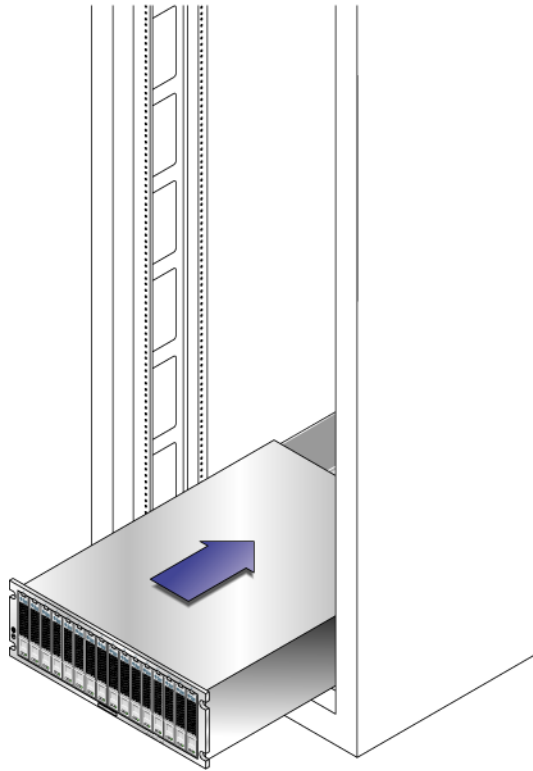

FIGURE 2-31 Sliding the Tray Into the Cabinet
2. Carefully slide the tray into the cabinet until the front flanges of the tray touch the vertical face of the cabinet (FIGURE 2-31).